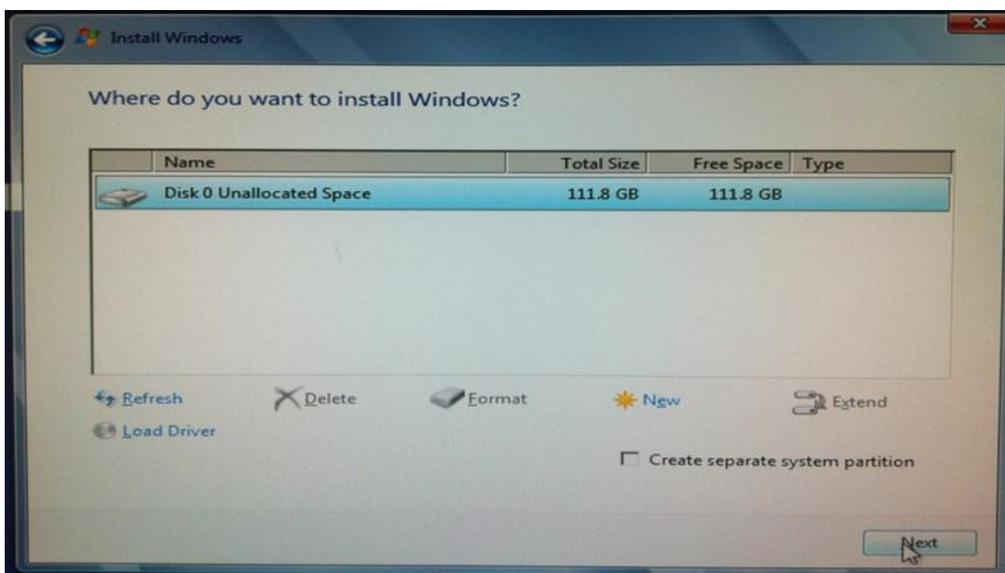

Figure 37: Where do you want to install Windows?
7. Select a disk install location as shown in Figure 37. You may want to delete any existing partitions that appear in the list. If not, you can use an unallocated section or create one using the options. Note that you will likely need at least 8GB of free space for an install depending on which image options and features you chose in step 5. When you are finished, click Next.